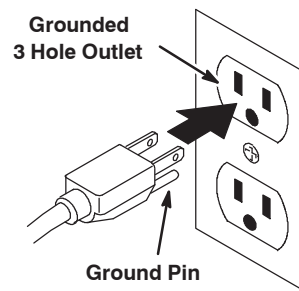

FIG. 23
5. Connect the charger's AC power supply cord to a properly grounded receptacle (Figure 23).